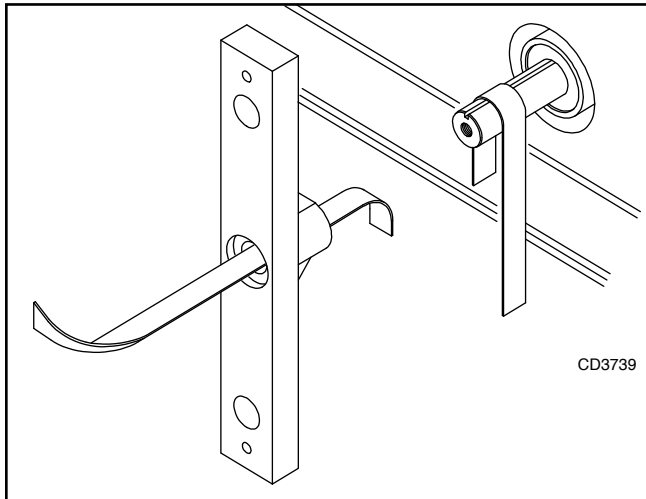

Figure 19.
1. Using emery cloth (220 or finer), remove surface rust, Loctite® and foreign material from hub, splined gearbox, vertical shaft, and crossbar as shown in Figure 19.